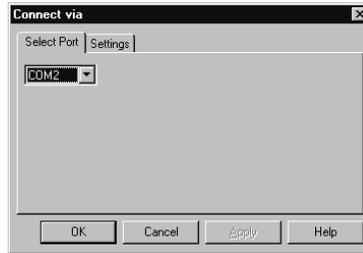

Figure 4.2. Select Port Tab
4. In the **Select Port** tab, Figure 4.2, select the COM port the receiver or IR device is using.